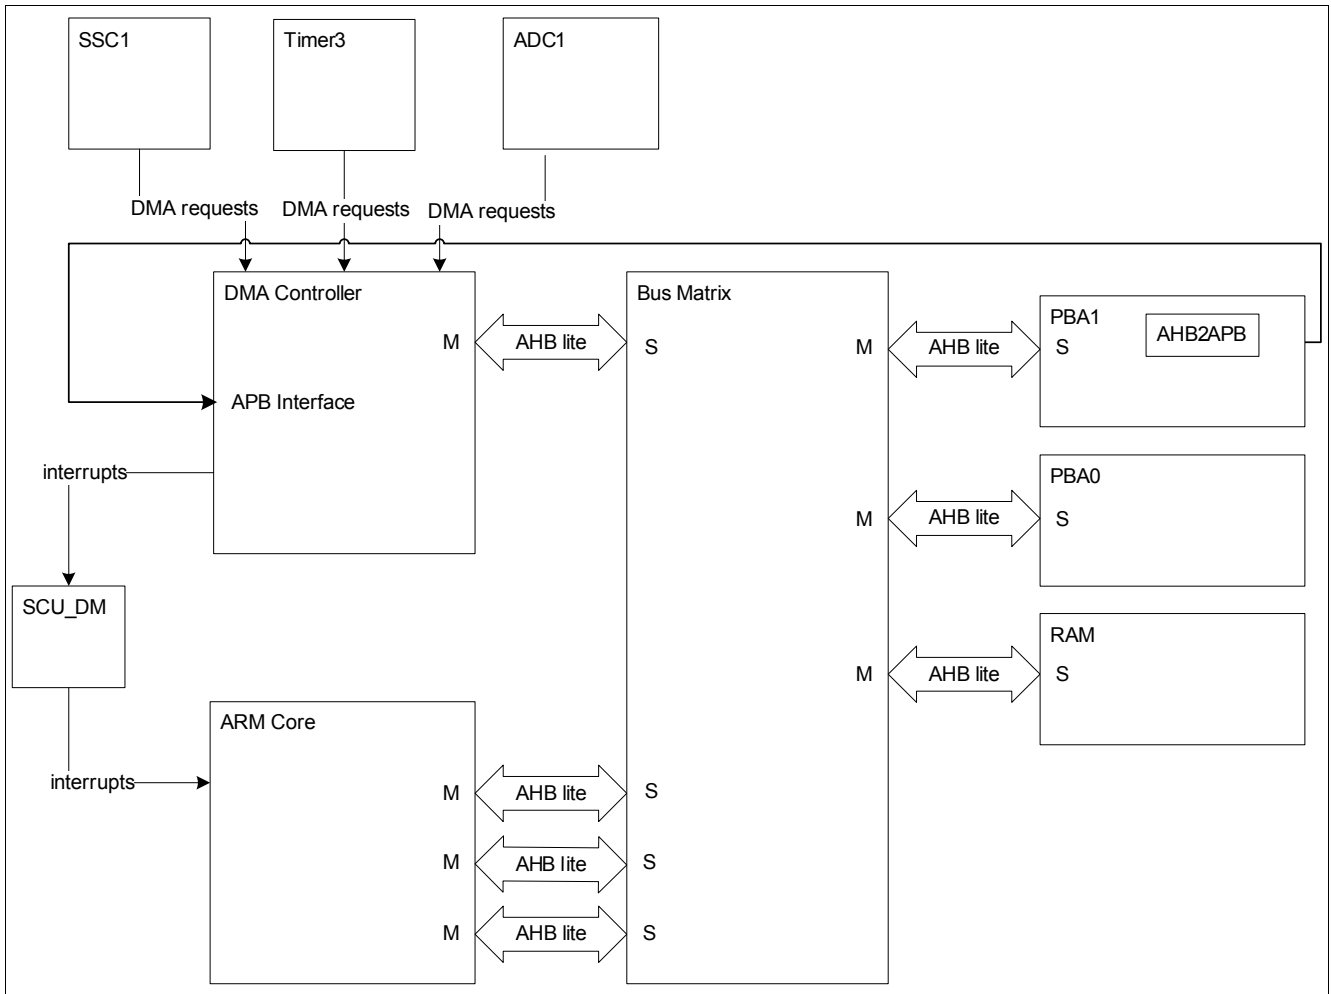

Figure 13 DMA Controller Top Level Block Diagram
**Figure 13** shows the Top Level Block Diagram of the TLE9879QXA20.